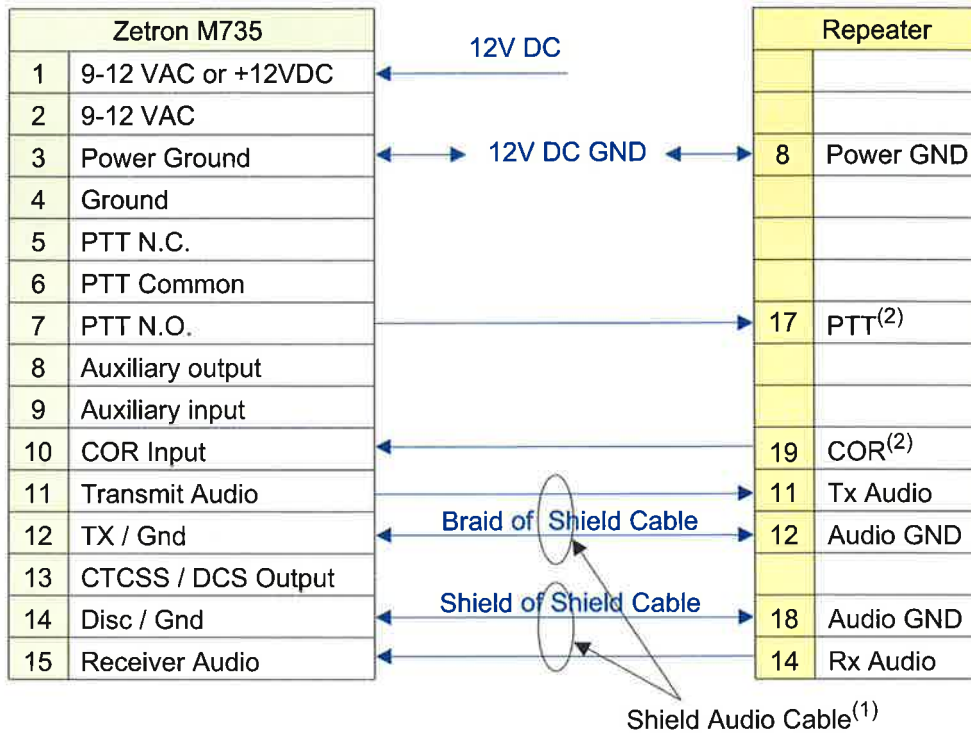

Figure B-6. Zetron M735 Hardware Connection
1. Apply shielded audio cable for Tx and Rx Audio connections to avoid any possible interference to speech signal. The connection of the shielded cable braid is indicated in Figure B-6.
2. The GPIO pin for PTT and COR function is configured in the CPS. Confirm that the CPS setting matches the Pin information. See "Figure B-6. Zetron M735 Hardware Connection" on page B-7.
1. Connect Phone Patch to the repeater according to Figure B-6.